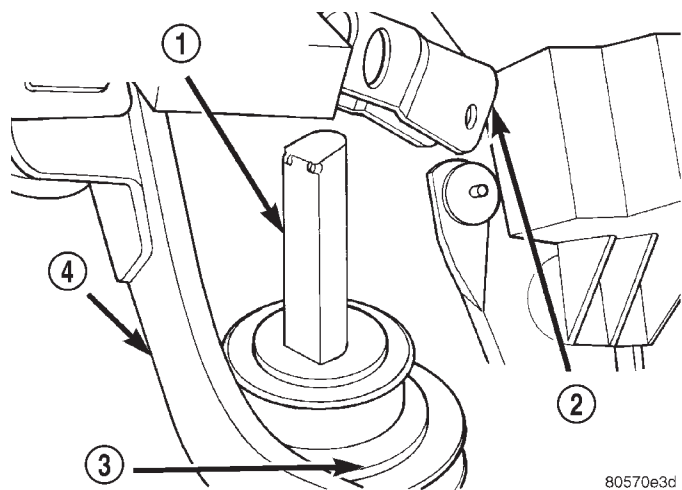
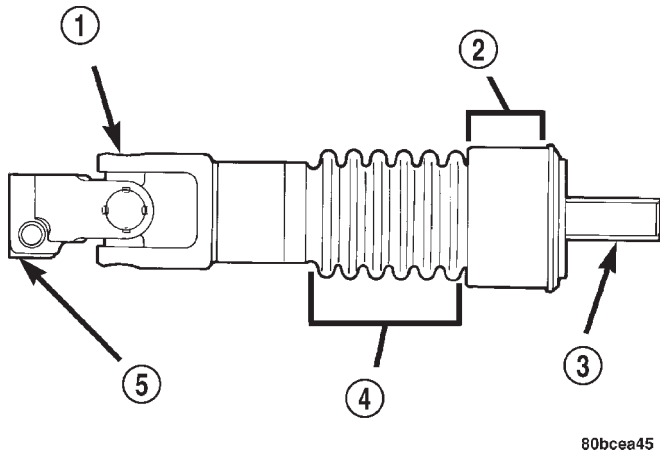

Fig. 4 Steering Column Coupling Seal
Fig. 5 Lower Coupling Inspection
(3) Remove the silencer seal enclosing the steering column coupling (Fig. 4).
(4) Inspect steering column lower coupling in the following areas for signs of damage:
- Inspect the sealing collar on the lower coupling (Fig. 5) to ensure it is not cracked, broken, or otherwise damaged requiring coupling replacement.
- Inspect the corrugated section (Fig. 5) of the lower coupling for the following conditions or any other visible signs of damage.
(5) If the lower coupling does not require replacement, install the dash panel-to-steering column coupling silencer seal (Fig. 4) back on the vehicle.